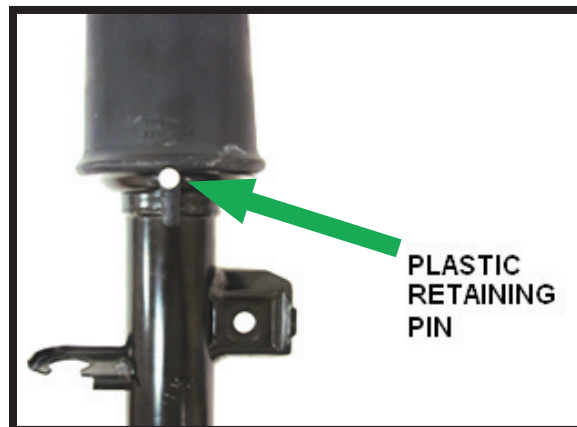

FIGURE 8
2. REMOVE THE PLASTIC RETAINING PIN AT THE BOTTOM OF THE AIR SLEEVE ASSEMBLY. SAVE THE PLASTIC RETAINING PIN FOR AIR SPRING INSTALLATION. (FIGURE 8)